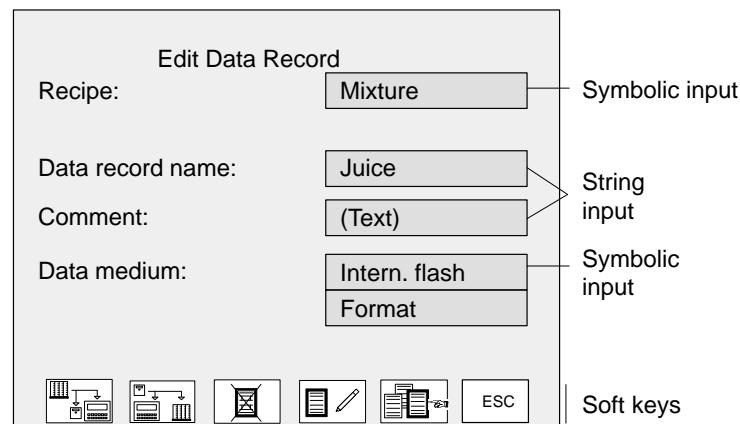

Bild 9-10 The *Z_RECORD_1* Standard Screen on OP
- From the start screen, call screen *DAT_1*. Figure 9-10 shows standard screen *Z_RECORD_1* on the OP. The FLASH data medium has already been set. Move the cursor to the *Format Data Medium* field. Press **ENTER** twice. In reply to the following queries, enter 0 for *Yes* in every instance.